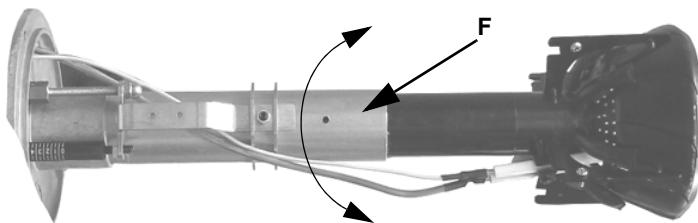
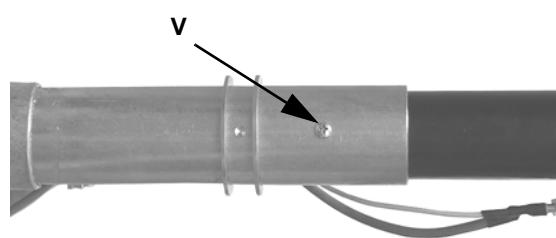

Fig. 16
Fig. 17
- 5 Take off the flange and the combustion head together (Fig. 16).
7 Unscrew the **V**, rotate the head of 180 ° along its axis as shown in (Fig. 16), until the hole **F** is found. Fit the screw again (Fig. 16 - Fig. 17).